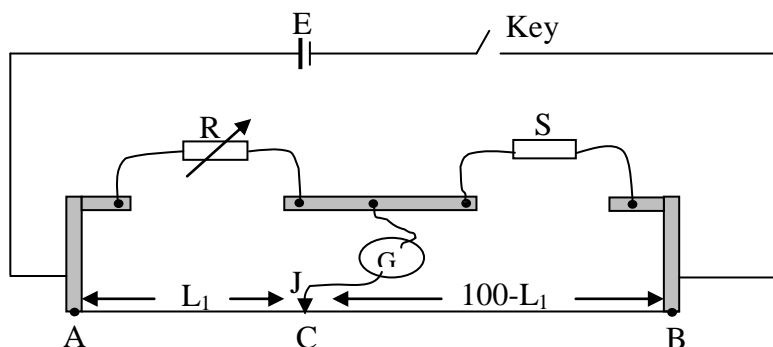

Figure 31
- (a) The arrangement of the equipment should be as shown in Figure 31.